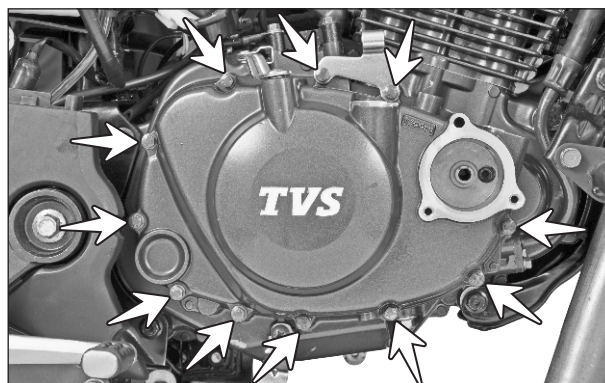

Fig. 3.7
- Remove the hexagonal flange bolts (M6x35 - 11 nos.) from the cover clutch mounting. (Fig. 3.7)